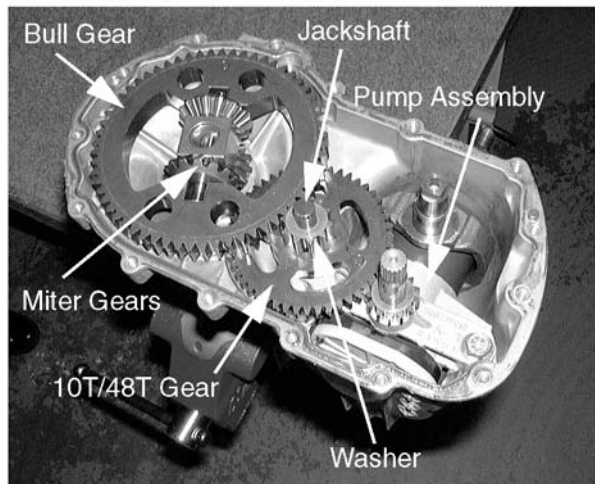

Figure 6-76.
18. Install the remaining internal components into the main housing in the reverse order of removal. See Figure 6-76.